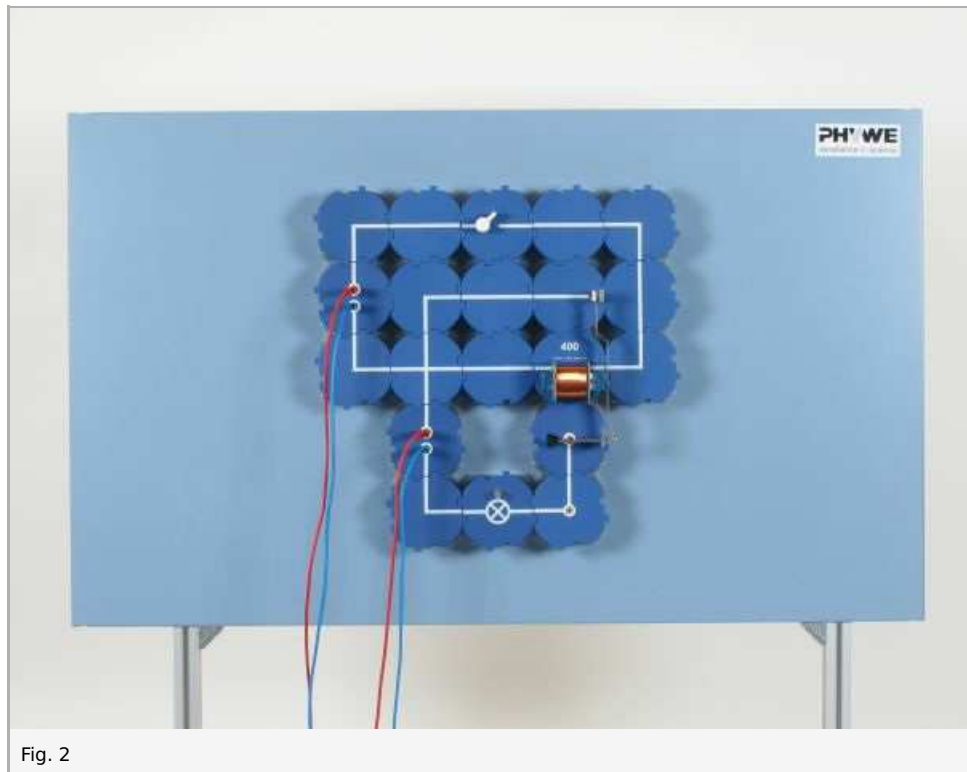

Fig. 2
- With the switch open and the power supply switched off, change the set-up to that in Fig. 2; leave the armature in the same position and use the milled screw to adjust the contact element so that it is at a distance of approx. 2 mm from the contact spring.
- Repeatedly close and open the switch (in the control circuit) while observing the contact spring and the filament lamp (2)